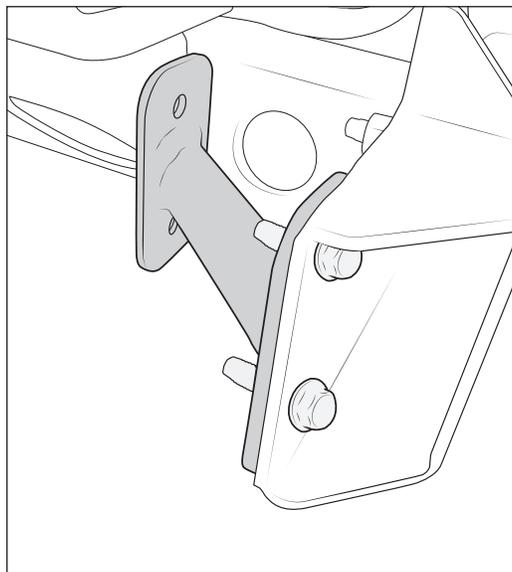

Figure 9: Passenger-side shown
6. Install side crush beams using two supplied M10 bolts and nuts (fig. 9). Torque nuts to 43 ft-lbs.